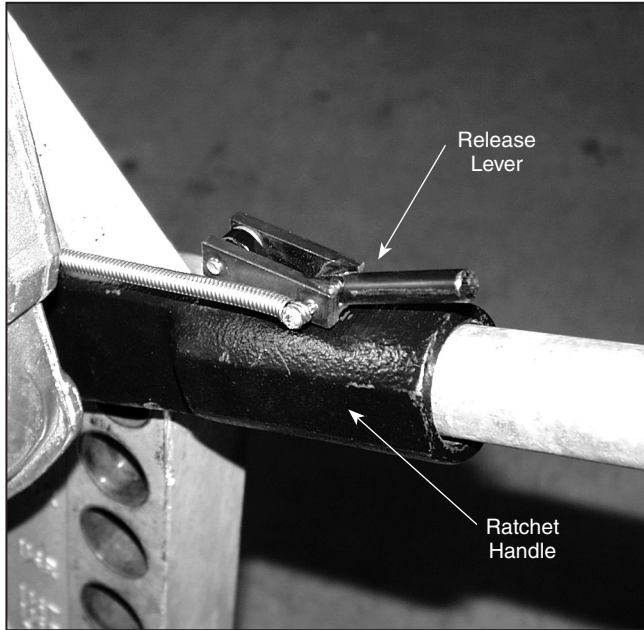

Fig. 13
2. Move the ratchet handle up until the pawls “click” together and release the shoe teeth, figure 13.